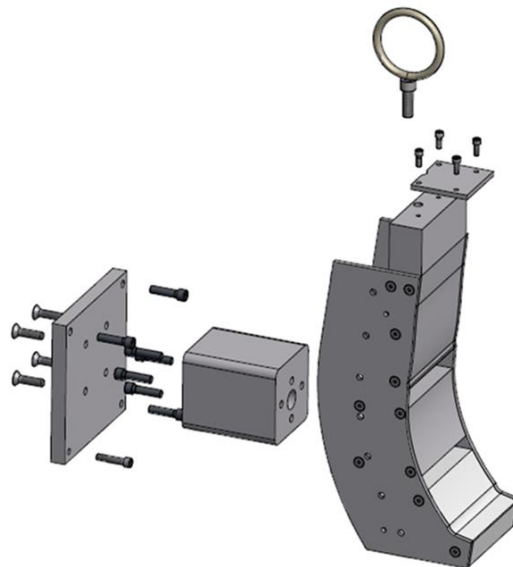

Figure 3: Jacket Core Assembly (TRA-340)
- The BIORID jacket core assembly is shown in Figure 3.